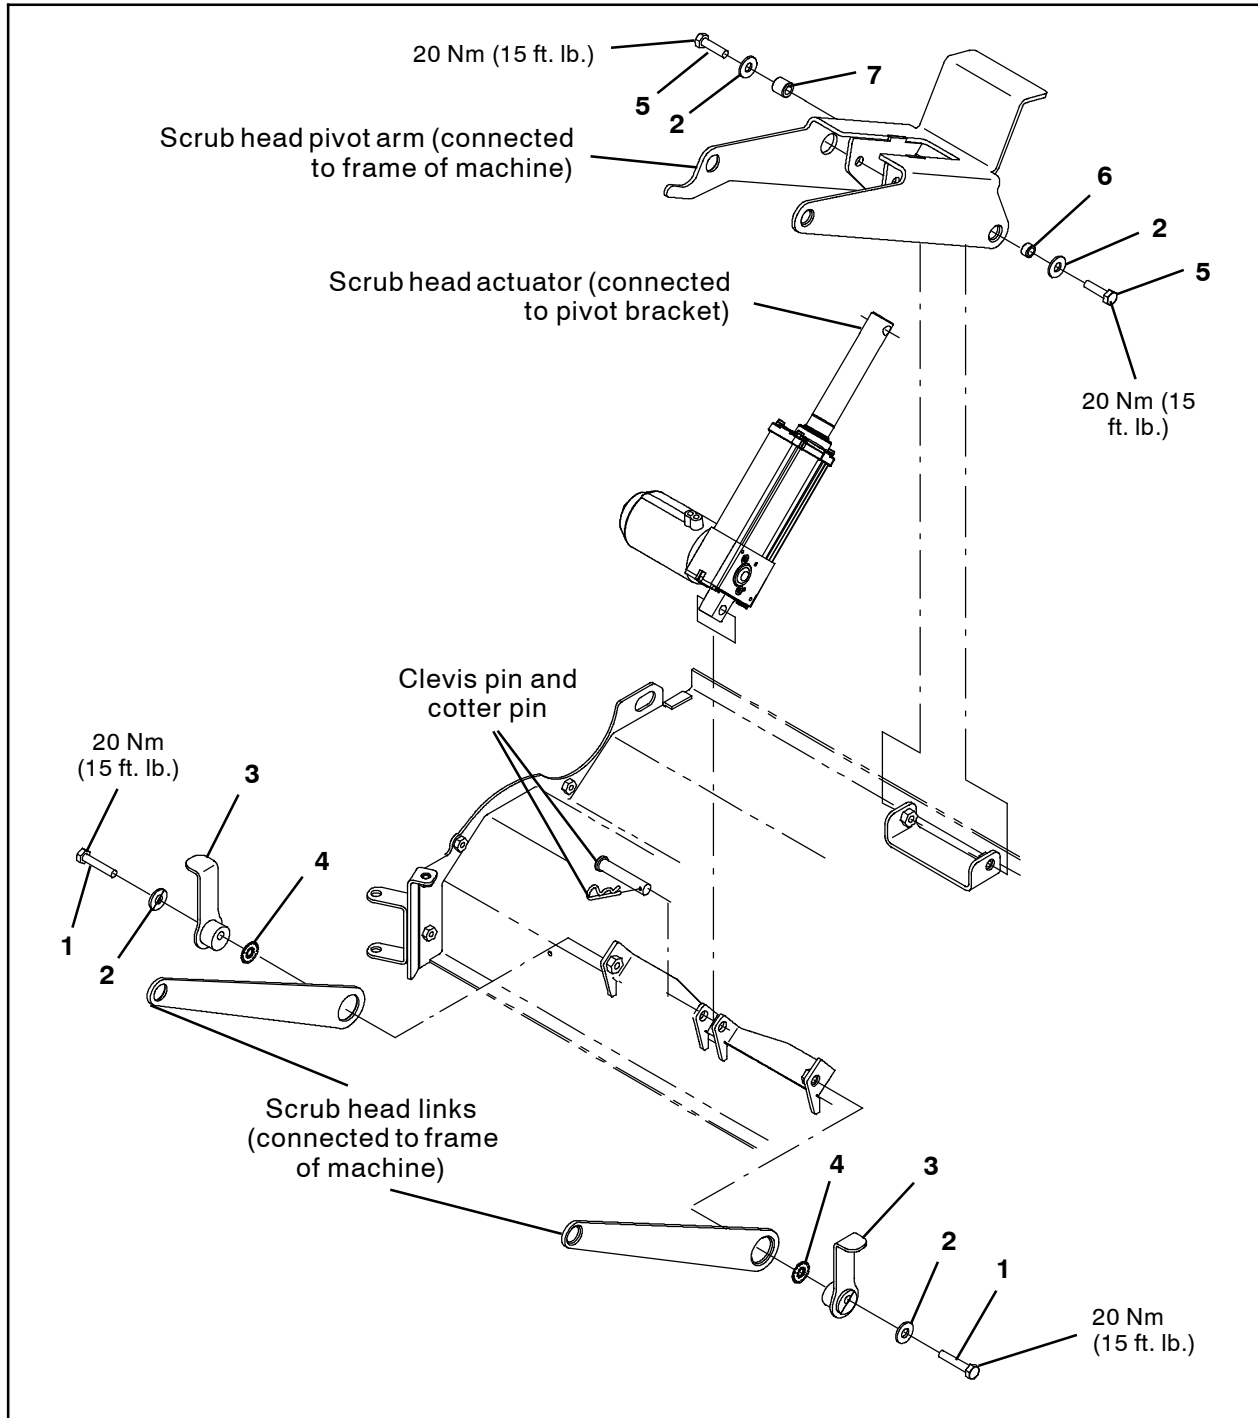

FIG. 3
16. Use a M8 hex screw (1), flat washer (2), and lock washer (4) to connect each pivot (3) and both scrub head links to the scrub head. Torque both M8 hex screws to 20 Nm (15 ft. lb.). (Fig. 3)
17. Use two M8 hex screws (5), two flat washers (2), and sleeves (6) and (7) to connect the scrub head pivot arm to the scrub head. Torque both M8 hex screws to 20 Nm (15 ft. lb.). (Fig. 3)